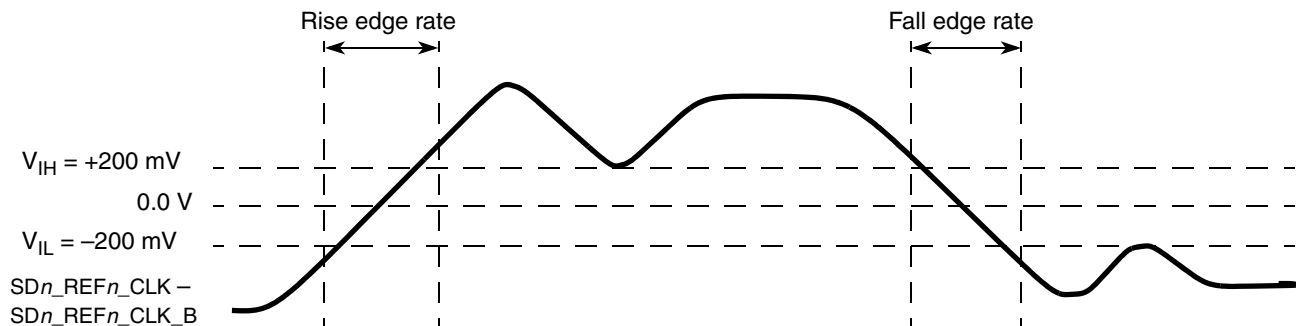

Figure 37. Differential measurement points for rise and fall time
- Measured from –200 mV to +200 mV on the differential waveform (derived from SD_n_REF1_CLK minus SD_n_REF1_CLK_B). The signal must be monotonic through the measurement region for rise and fall time. The 400 mV measurement window is centered on the differential zero crossing. See Figure 37.
- Measured from -200 mV to +200 mV on the differential waveform (derived from SD_n_REF1_CLK minus SD_n_REF1_CLK_B). The signal must be monotonic through the measurement region for rise and fall time. The 400 mV measurement window is centered on the differential zero crossing. See Figure 37.